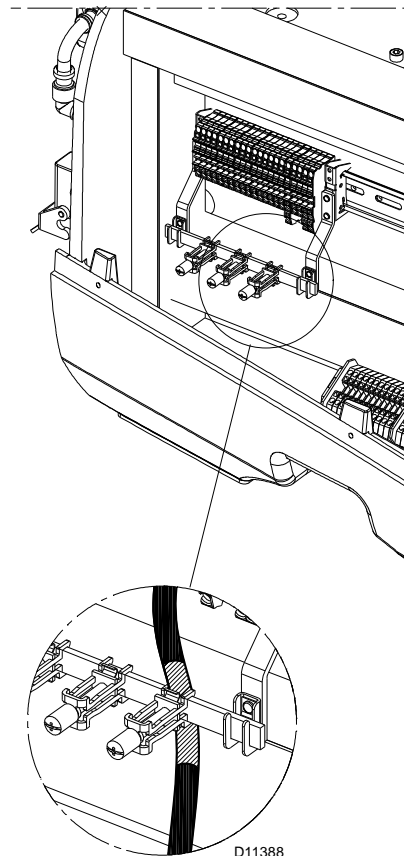

Fig. 32
- 1 The connection from the Inverter to LMV52.... must be done as shown in Fig. 32.
- 2 The connection from the speed sensor to LMV52.... must be done as shown in Fig. 32
- 3 Possible pressure/temperature probes and O2 sensor connection must be done as shown in Fig. 32.